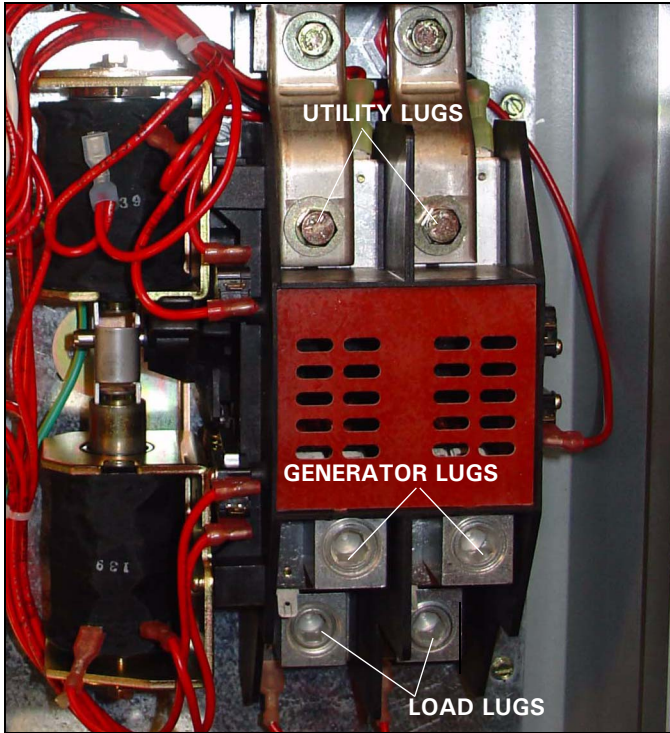
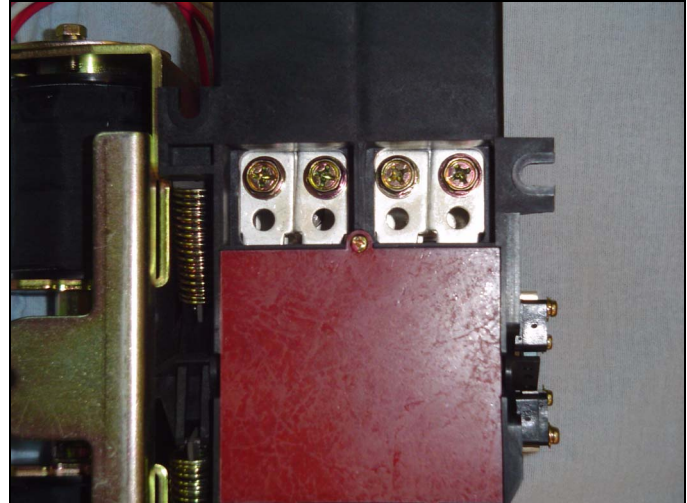

Figure 38. Replacing the 200 A Lug - Lug Location.
Figure 39. Replacing the 200 A Lugs.
Step 5: Remove the four (4) screws securing the contactor to the base plate using a blade screwdriver or 0.25 in. socket or nut driver.
Step 6: Remove the load lugs first by removing the four (4) Phillips screws from the back of the contactor using a Phillips screwdriver. The load bus extension and load lugs can now be removed by sliding it away from the contactor (see Figure 39).
Step 8: Next, insert a blade screwdriver or 5/16 in. socket or nut driver up through the load lug terminal hole and remove the hardware securing the two (2) generator lugs (see Figure 39). Remove the generator lugs.
Step 10: Place the new utility lugs on the utility bus so the anti-turn protrusions fit in the holes (see Figure 38). Once the lugs are in place, secure them to the utility bus using one (1) screw and one (1) washer supplied. Repeat the process of the second utility lug. Ensure that no gaps are present between the lugs and bus.
Step 11: Place the new generator lugs on the generator bus so the anti-turn protrusions fit in the holes (see Figure 38). Once the lugs are in place, secure them to the generator bus using one (1) screw and one (1) washer supplied. Repeat the process of the second generator lug. Ensure that no gaps are present between the lugs and bus.
Step 12: Secure each load lug to the detached load bus using one (1) screw and one (1) washer supplied.
Step 13: Slide the completed load bus extension back into the contactor and secure each extension using the four (4) Phillips screws (see Figure 39).